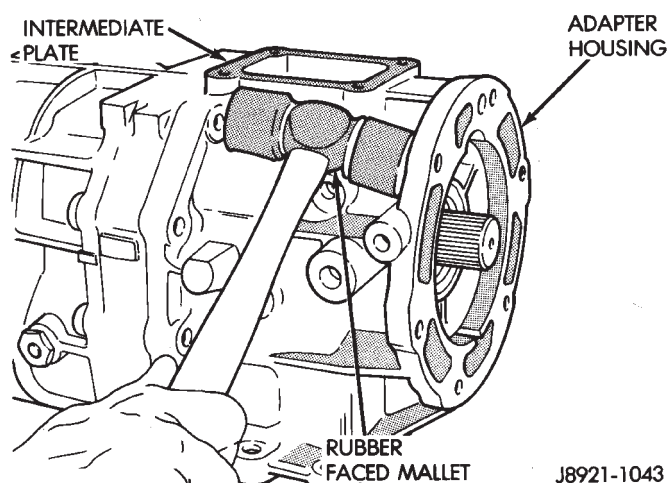

Fig. 13 Loosening Adapter Housing
(16) Loosen adapter/extension housing with rubber mallet (Fig. 13).